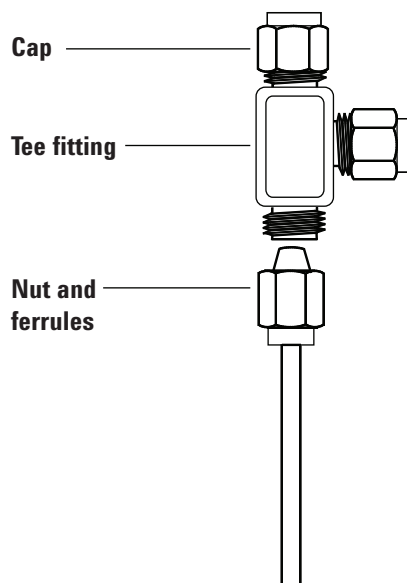

Figure 19. Swagelok tee
- 1 Cut the tubing where you want to install the Tee. Connect the tubing and Tee with a Swagelok fitting. See **Figure 19**.